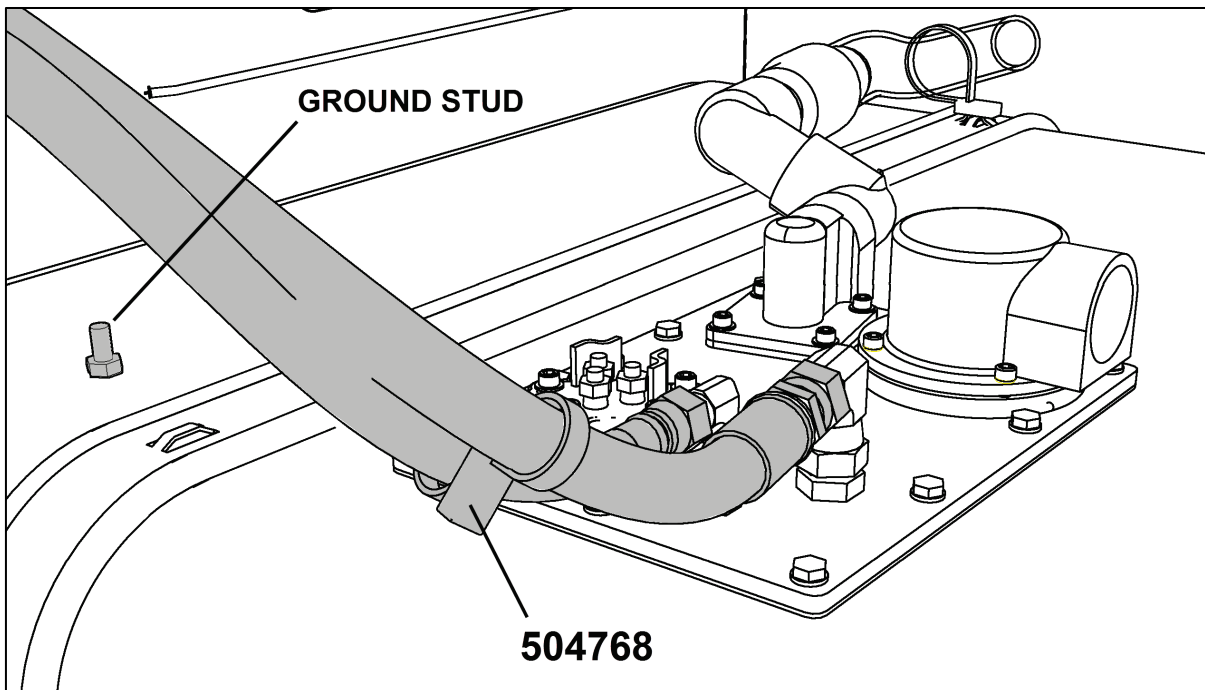

Figure 11
19. Connect the fill hose 032987 to the inlet on the tank.(Fig. 11)